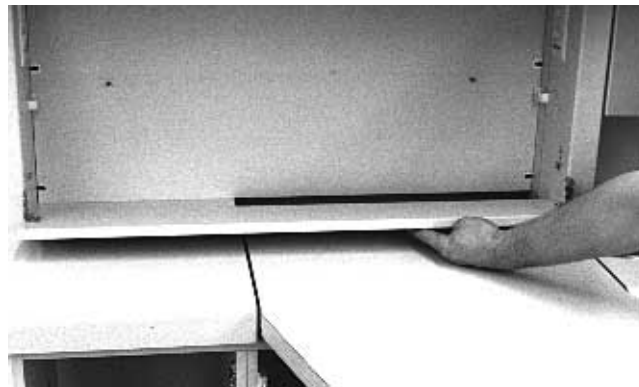

FIGURE 24
2. Install a 1/4-20 x 1/2" (12.7 mm) pan head Phillips screw, from the kit, in the lower hole of each upper module column (see Figure 24).